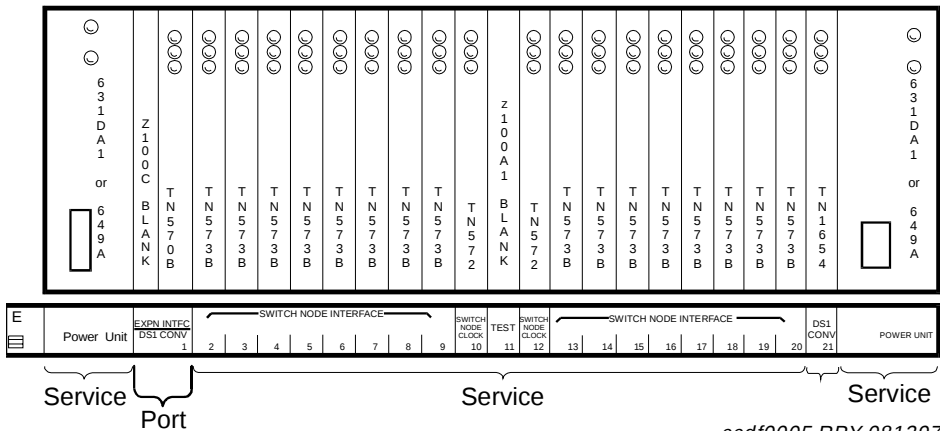

Figure 40. Switch Node Carrier (J58890SA) (Front)
The Switch Node Carrier (SN) (J58890SA) is used in R9r and later only. See Figure 40 for a representative example. The SN can contain one or two switch node clocks, up to 16 Switch Node Interface (SNI) circuit packs, 1 or 2 DS1 converter circuit packs, one EI circuit pack, and 2 AC or DC power units.